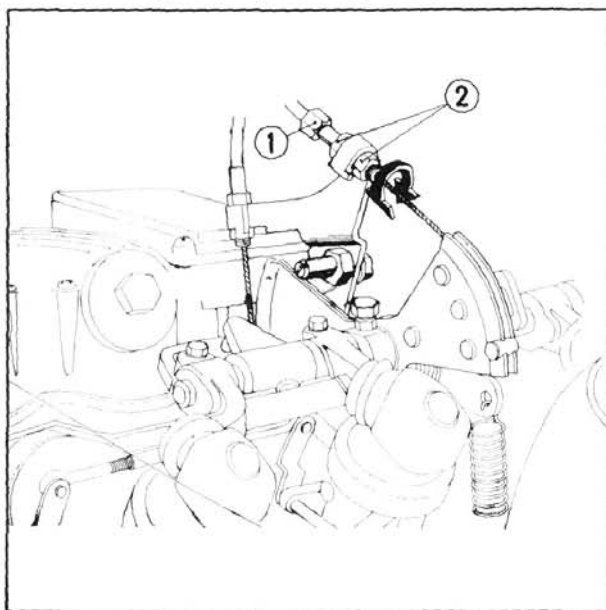

Fig. 20-20 Throttle cable adjustment
2. Turn the adjuster nut at the carburetor end to provide a 0.12–0.16 in. (3–4 mm) play at the grip flange. (Fig. 20-20)